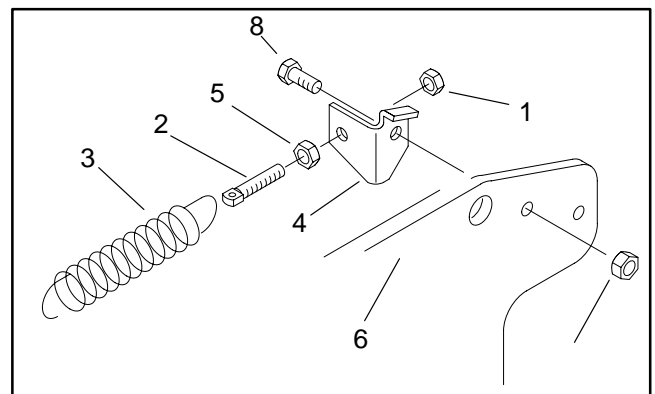

Figure 27
- B. Remove lock nut securing the pin and extension spring to the spring bracket. Do not unscrew jam nut from the pin. Release pin from the bracket. Remove spring from neutral arm (Fig. 27).
C. Remove spring bracket from the pump plate (Fig. 27).
B. Secure spring bracket to the pump plate with cap screw and lock nut (Fig. 27).
C. Install spring to neutral arm and pin. Insert pin into the spring bracket. Secure pin and to the spring bracket with lock nut (Fig. 27).